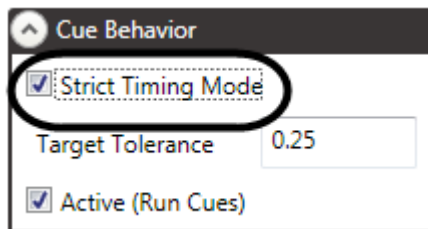

Figure 149
4. To use **Strict Timing Mode**, select the **Strict Timing Mode** field (Figure 149).